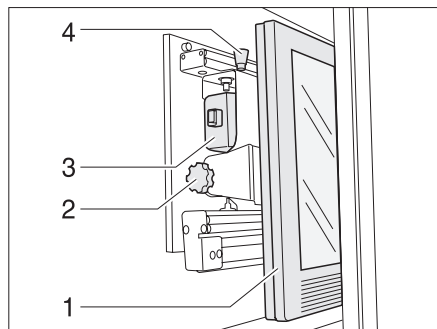

Fig. 82 TV cabinet
- Press the release knob (Fig. 82,4) and pull the holder for the flat screen forward as far as possible by the handle (Fig. 82,3).
- Pull the release button (Fig. 82,4) and swivel the flat screen (Fig. 82,1) into the desired position.
- Loosen the knurled screw (Fig. 82,2).